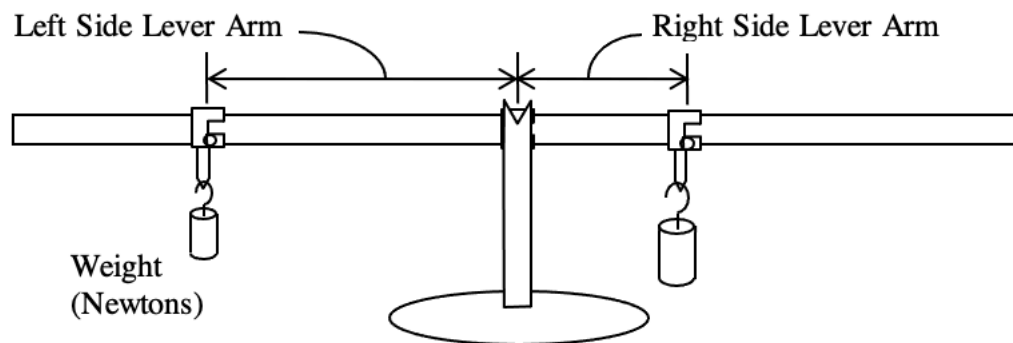

Fig. 2: Balanced meter stick
3. Test your prediction by hanging the 100 g mass on the meter stick in such a way that the meter stick is in balance, as shown in Fig. 2 below.